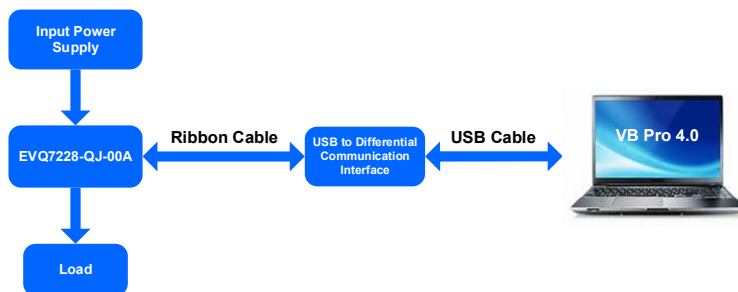

Figure 2: Connection to the UART Interface
8. Connect CN2 on the evaluation board the communication interface, then connect the interface to the computer. This allows the device to be configured via Virtual Bench Pro 4.0, which is the configurable graphic user interface (GUI) (see Figure 2). ⁽¹⁾ If this is a user's first time using the communication interface, contact an MPS FAE to obtain the driver file.